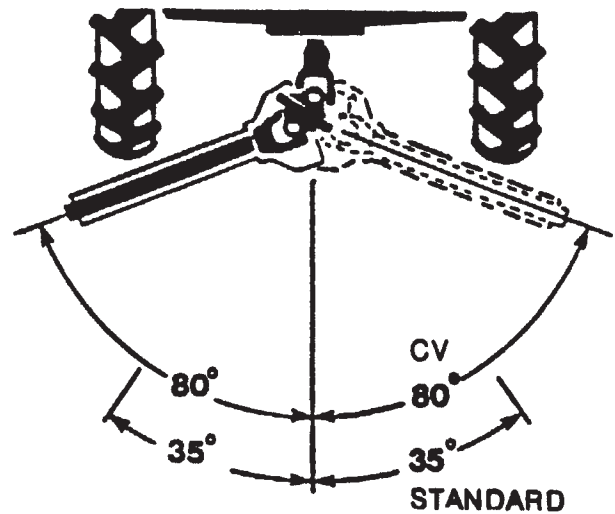

Figure 15. Driveline Angles
4. Although the driveline may be equipped with an optional constant velocity (CV) joint, turning angles are limited. (See Figure 15.) Do not exceed the working angles. Turn off the machine when making sharp turns.